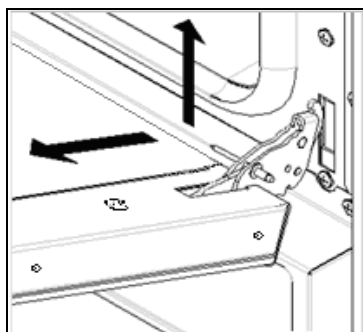

Fig. 4
- lift the door gently and withdraw it (Fig. 4).